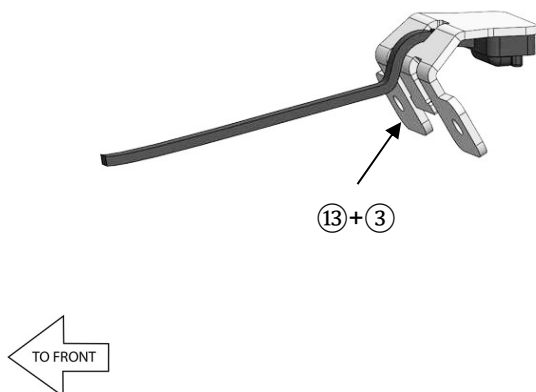

**Fig. 2**
3. In the upper tail section, disconnect the license plate light connector and rear turn signal electrical connections. (Fig. 2)
4. Remove the stock bolts and rivets from under the tail section that attaches the mudguard assembly to the tail section. (Fig. 2)